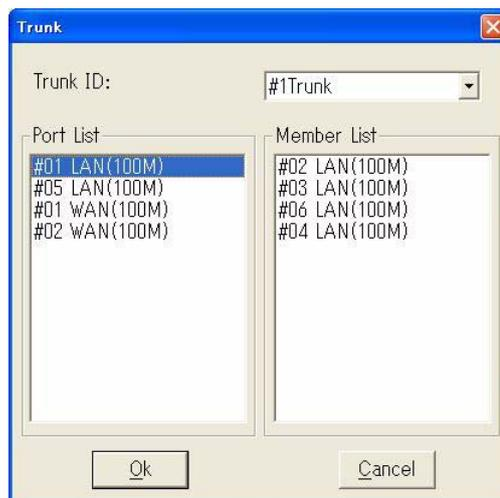

Fig. 4-4-66 Modifying Trunk Window
- 6 If need to modify a trunk port, select the trunk port and click modify button. *Fig. 4-4-66* appears: